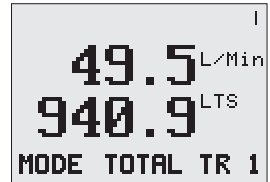

Figure 36: Example of main screen when configured as a Flow Meter
The Jackal can be configured to monitor application rates of solid and liquid product, using a **RATE** input. If only one input is used the main screen will display as shown in Figure 36. The flow information can be displayed as L/min (or Gal/min), or, if also using **SPEED** and implement **WIDTH** information the Jackal can calculate L/Ha (or Gal/Ac).
4. When operating, main screen should display as described in Figure 36.